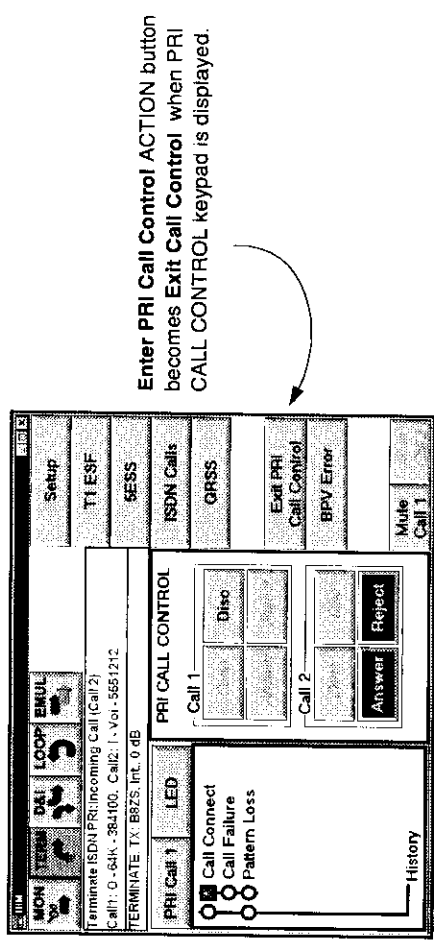

Figure 4-5. ISDN PRI Call Control Keypad
Once the parameters for the call are set, press the **Enter PRI Call Control ACTION** button. The **PRI Call Control** keypad pops up (Figure 4-5). Press **Conn** to place the call.
1. Press **Enter PRI Call Control ACTION** button (see Figure 4-5).
3. TPI 560P answers the call and announces the type of service, calling number, and prompts you, hang up for call back. The **Conn** button becomes disabled, and the **Disc** (Disconnect) button enables, leaving you with an active call (see Figure 4-5). *The audible voice announcement is only available for single, B-Channel calls.*